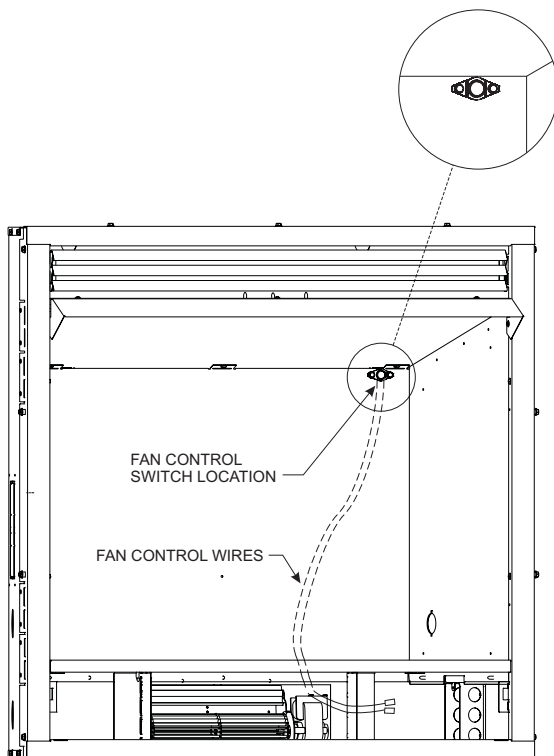

Figure 17
- Next, find the fan control switch and wire assembly. Feed the wires through the hole at the top of the firebox, and secure the fan control switch with two #6 screws provided. **See Figure 17.**
- The fan control wires will slide down between the firebox and outer wrap near the blower assembly. **See Figure 17.**